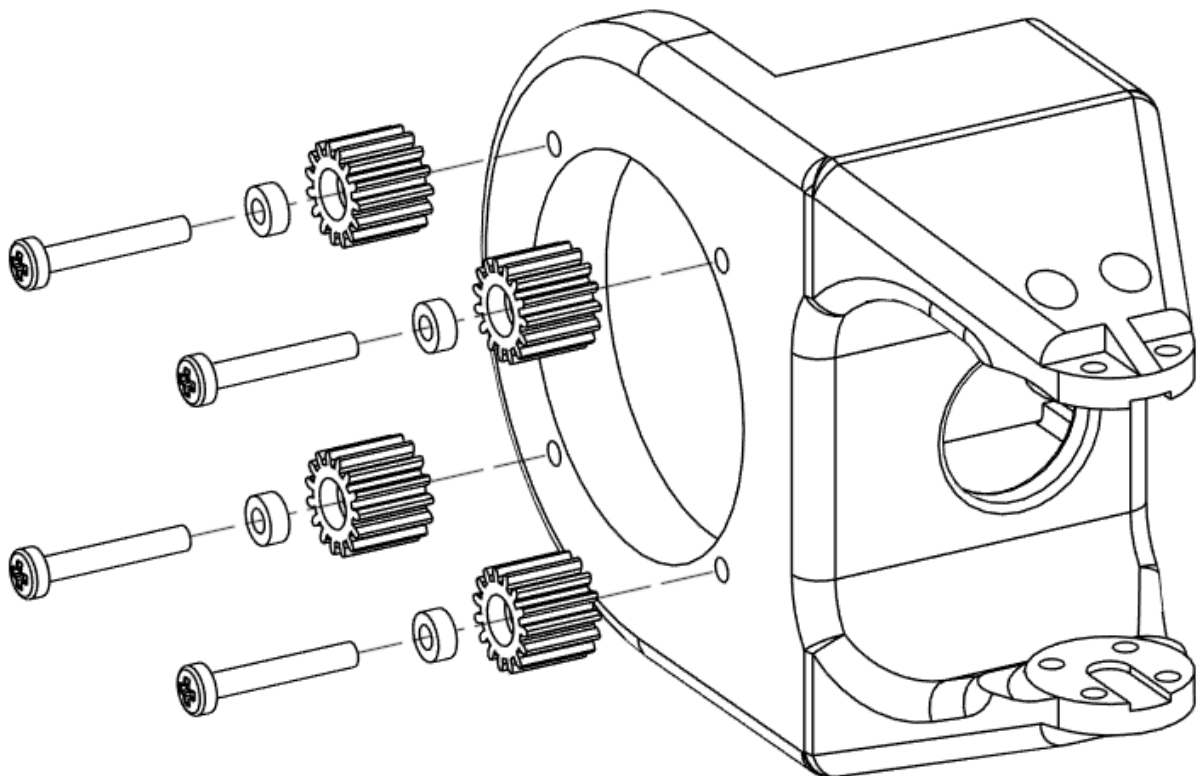
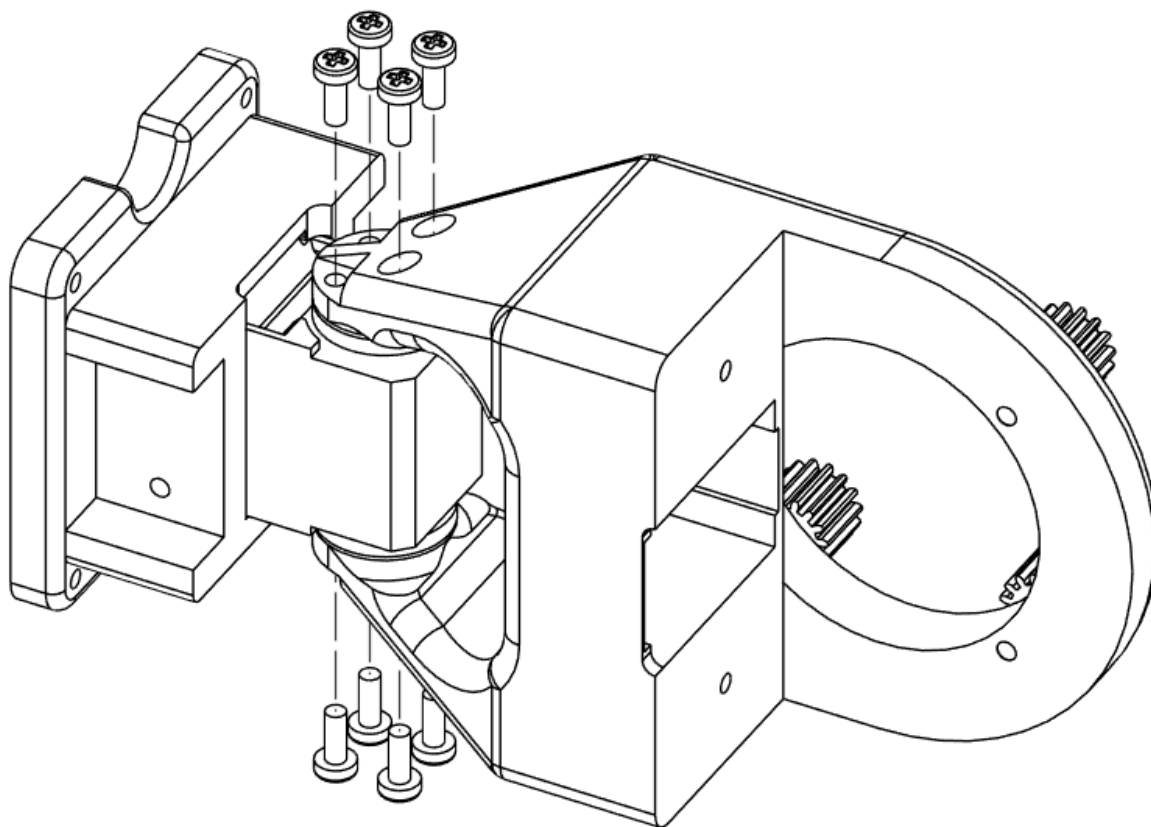
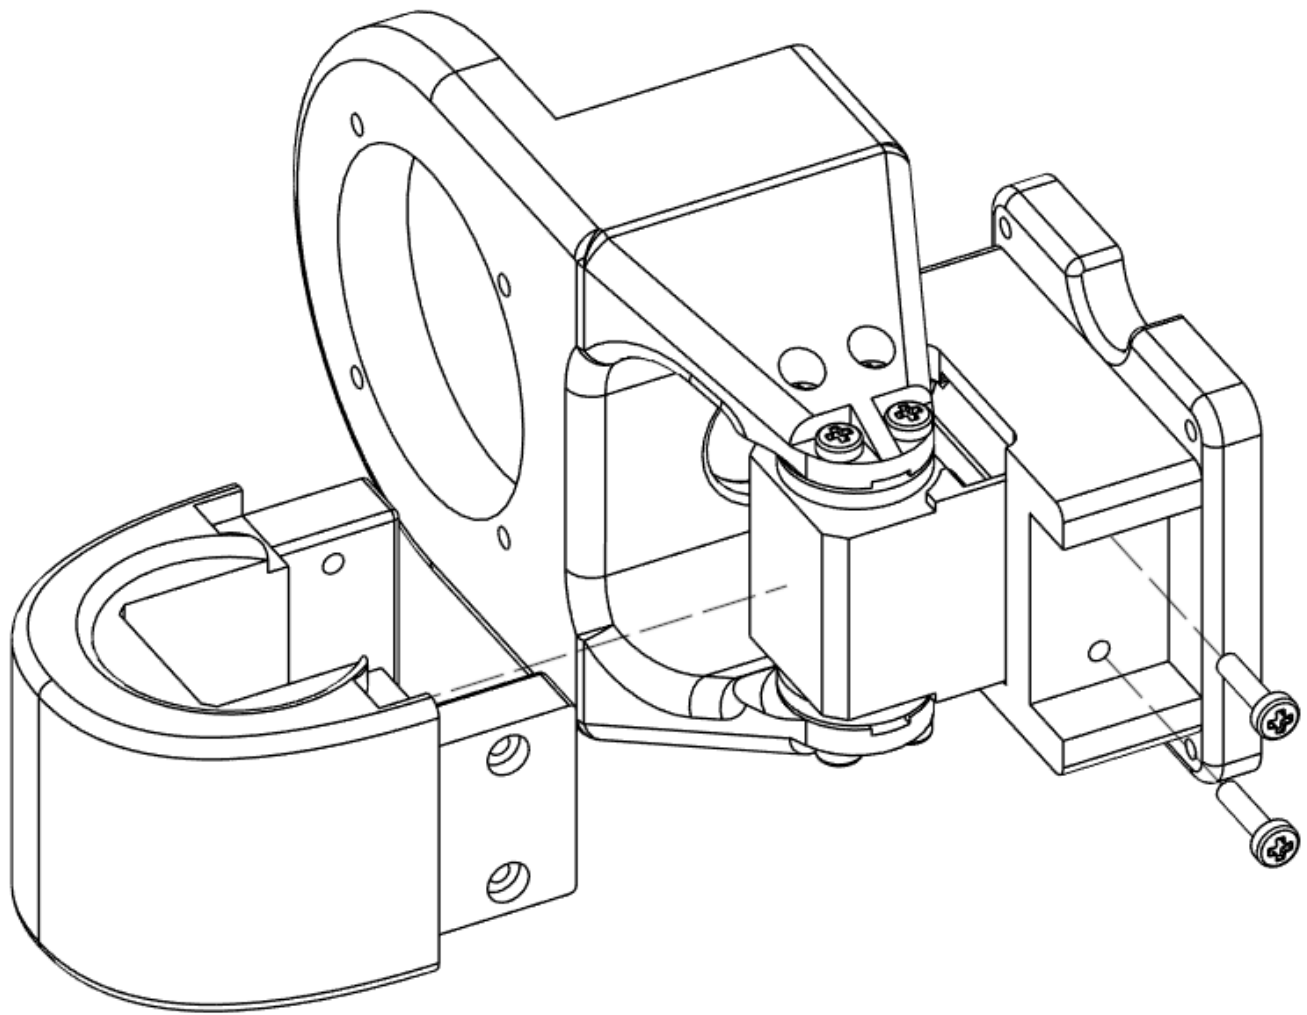
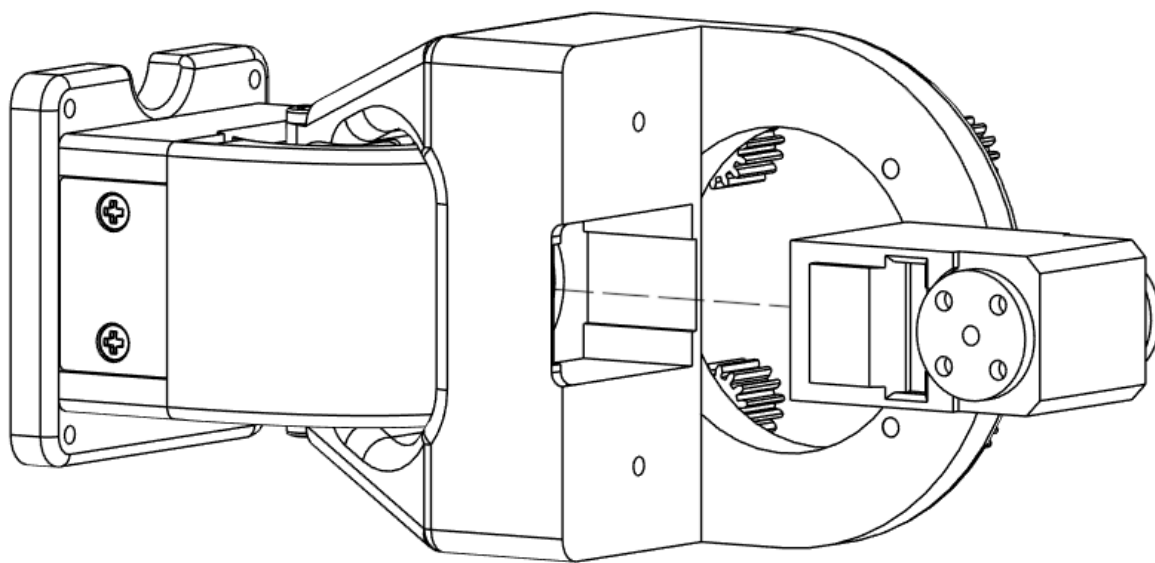

Figure 10.2 - Planets Assembly
Figure 10.3 - Shoulder & Motor 1 Assembly
Figure 10.4 - Motor 1 Support Assembly
Figure 10.5 - Motor 2 Assembly
2. Fasten Planets to Shoulder as shown in Figure 10.2
- a. (4) M3x20mm
- b. (4) Planet Bearings
3. Fasten Shoulder to Motor 1 as shown in Figure 10.3
- a. (8) M3x8mm
4. Fasten Motor 1 Support to Arm Base as shown in Figure 10.4
- a. (4) M3x12mm
5. Insert Motor 2 into Shoulder as shown in Figure 10.5